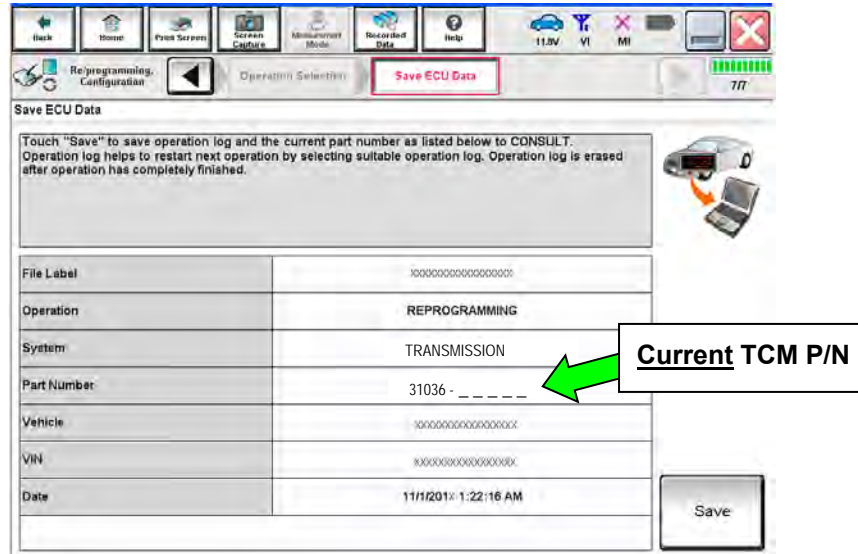

Figure 39
5. Follow the on-screen instructions and navigate the C-III plus to the screen shown in Figure 39.
6. When you get to the screen shown in Figure 39, confirm reprogramming applies as follows: